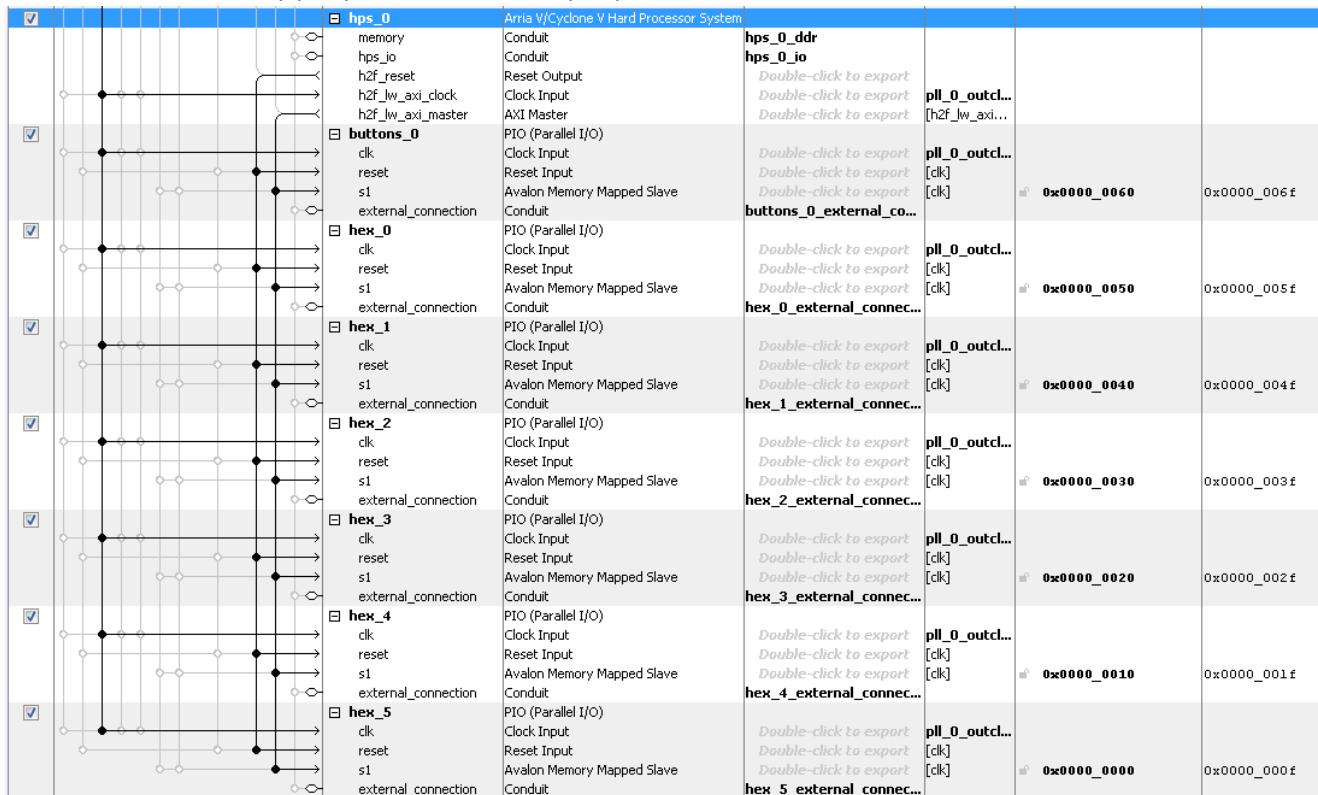

Figure 9-13. Adding Buttons and 7-segment Displays to the Lightweight HPS-to-FPGA Bridge
29. Connect the system as shown in Figure 9-13 below. Notice that we use “hps_0.h2f_reset” as the reset signal for the components connected to the HPS. This is a design choice so we can separately reset FPGA-only peripherals, and FPGA peripherals connected to the HPS.